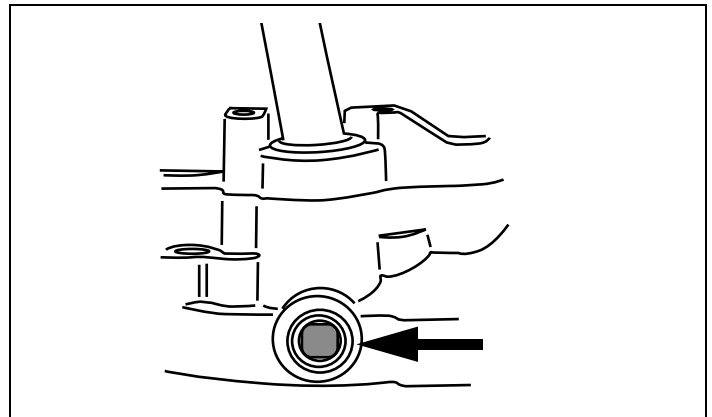

Figure 30. Oil Drain Plug Location
3. Be sure you find the correct drain plug location, if present (see equipment manufacturer's instructions). See Figure 30.
4. Clean area around oil drain plug. See Figure 30.